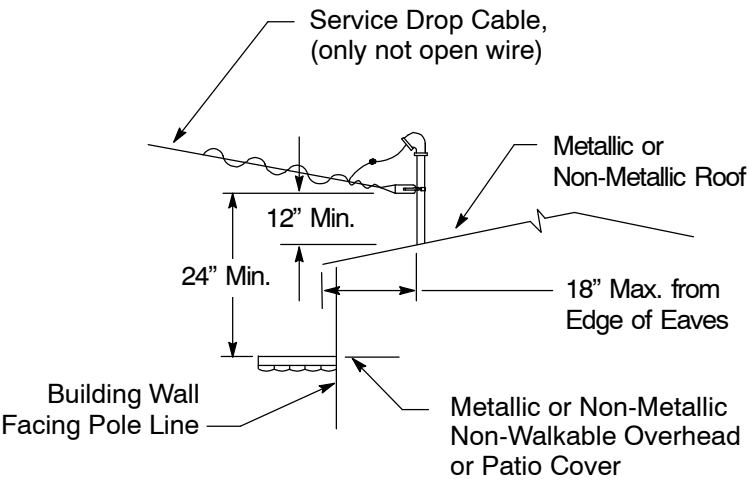
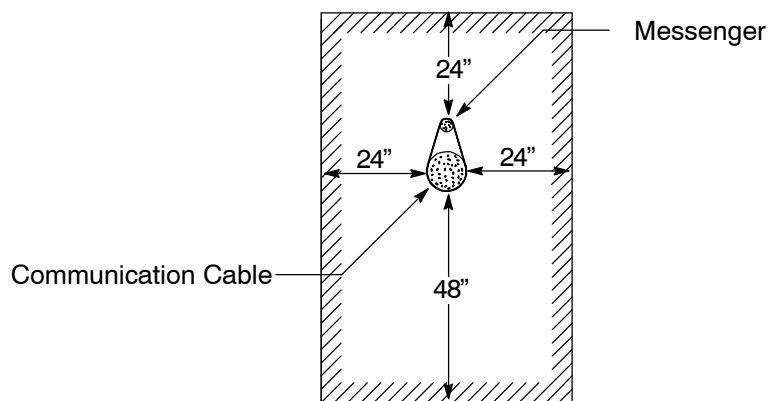

Figure 30
Figure 31
4. 1-1/4" minimum rigid steel conduit or 2" minimum rigid aluminum conduit (IPS dimensions) is required for all periscope attachment structures (see Figure 24, Figure 25, and Figure 26, Figure 27, on this page; Figure 30 on Page 11; and Figure 31 on Page 12). PG&E will not attach services to service entrance conduit of plastic material. Periscope (mast) height without bracing shall be limited to 30" above the roof in locations where the service drop must be installed through trees, or where trees or tree branches may strike or cause unplanned loading on the service drop.